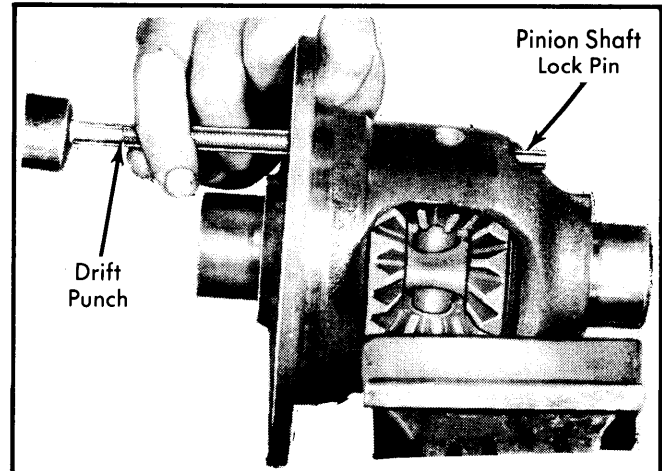

Fig. 4 Removal of Pinion Shaft Lock Pin
2) Use a suitable puller (J-2497-01) to remove side bearings from differential. Make sure puller pulls against bearing cone and not bearing cage or rollers. Remove ring gear retaining bolts and tap ring gear off differential using a brass hammer. Drive out pinion shaft lock pin using a 3/16" drift punch. Drive out pinion shaft using a punch. With shaft removed, withdraw thrust block. Roll pinion gears around on side gears until they can be removed. Remove side gears and thrust washers. See Fig. 4.